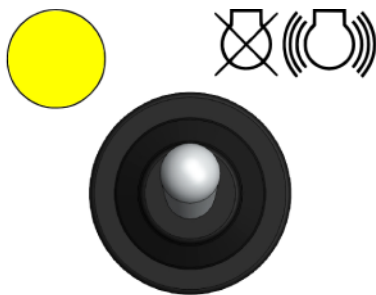

Fig. 49: Toggle switch start/stop
4. → To start up, press and hold the toggle switch (Fig. 49) up for at least 2 seconds.
The yellow lamp (Fig. 49) flashes during the start-up process.